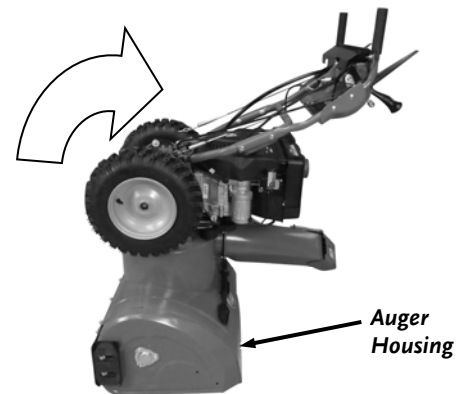

Figure 68
3. With the help of another person, tip the Snow Blower onto the Auger Housing (**Figure 68**).